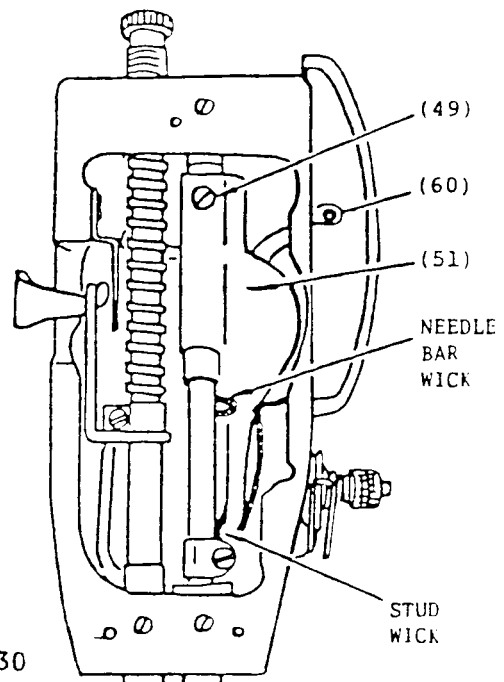

Fig. 30
When replacing the oil guard (51), which carries the needle bar wick and connecting stud wick, make sure that lower end of the stud wick drops into oil pool behind lower needle bar bushing and that the loop of needle bar wick is placed behind the needle bar, as shown in Fig. 30.